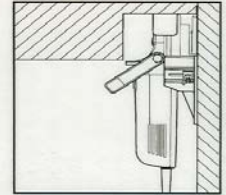

Figure 8
- Turn the handle away from the toe kick for undercutting toe spaces (see figure 8).